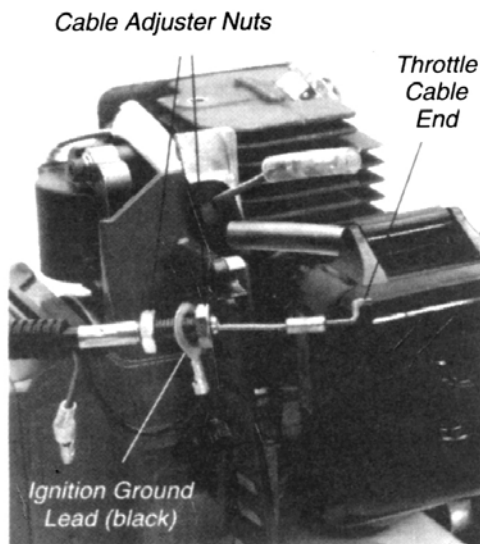

Figure 6
1. Loop the ribbed cable assembly to the top left side of the engine. Notice that the black ground wire (with a ring fitting on the end) is located between the two cable adjuster nuts as shown in Figure 6.